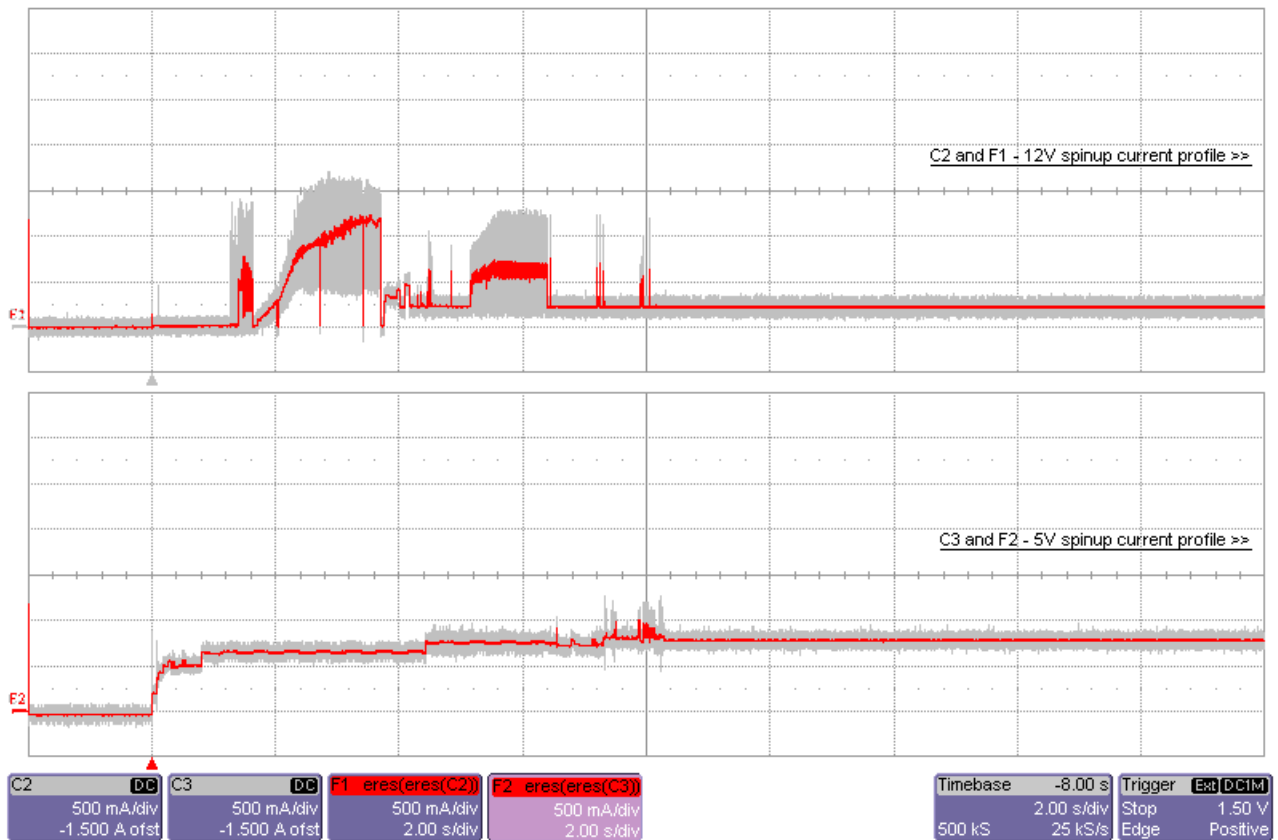

Figure 2. Typical ST973451FC drive +12V and +5V current profiles
- [3] See +12V current profile in Figure 2.